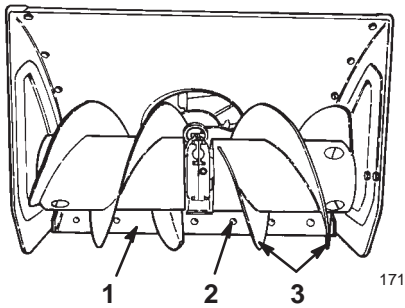

Figure 28
- Support the *auger blades* so that they are at least 1/8 inch (3 millimeters) off the ground (Fig. 28).
- To adjust the scrapper, loosen the carriage bolts that secure the scrapper to the auger housing (Fig. 28), level the scrapper, and tighten the carriage bolts.